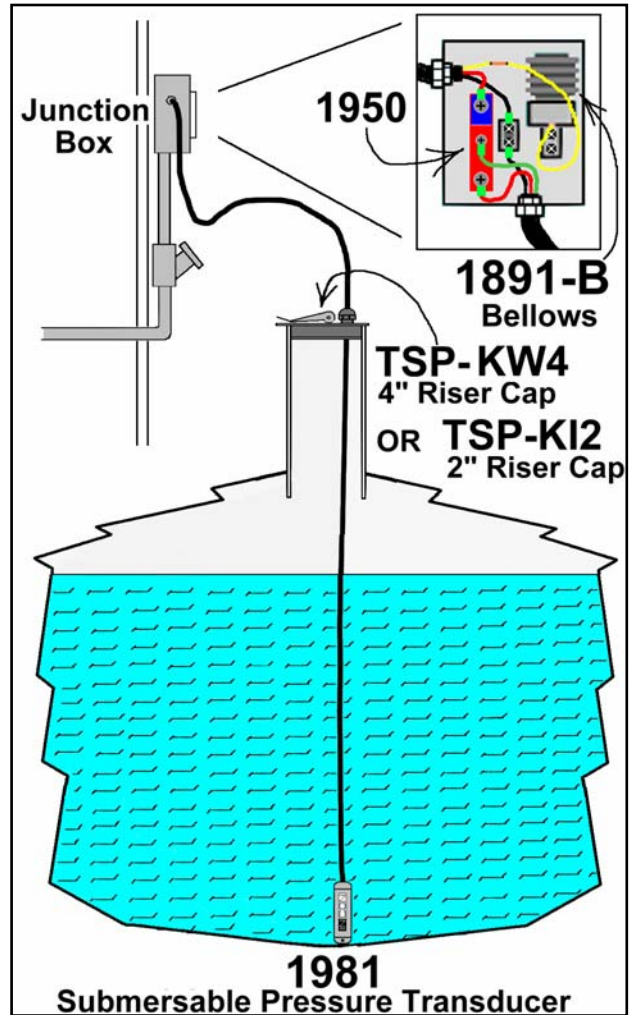

Figure 2
The 1891 can reliably and accurately transmit the level of fluid in a tank to a remote panel instrument. Typically a tank will have a spare threaded bung where a riser pipe can be installed. The 1891 can be installed in a tank through a 2"ID or 4"ID riser pipe. The installation could not be simpler. INCON offers 2 inch (model **TSP-KI2**) or 4 inch (model **TSP-KW4**) pipe plugs that have a cable clamp ideal for hanging an 1891 in a riser pipe (see Figure 2).
9. Wire the Barrier's "Hazardous" (red) side to the Panel Instrument's input terminal "F". Wire the opposing terminal on the terminal block to the Panel Instrument's input terminal "A". All wiring to the Panel Instrument should be run in proper conduit. (See Figure 2)